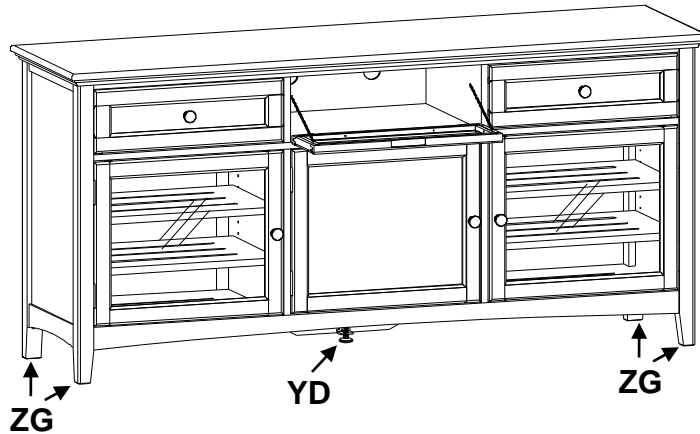

Fig. 1
1. Place the console at its final destination. Rotate the Adjustable Glides (ZG) found at the corners of the unit and (YD) at the bottom of the Center Foot until the unit is level. See Figure 1.